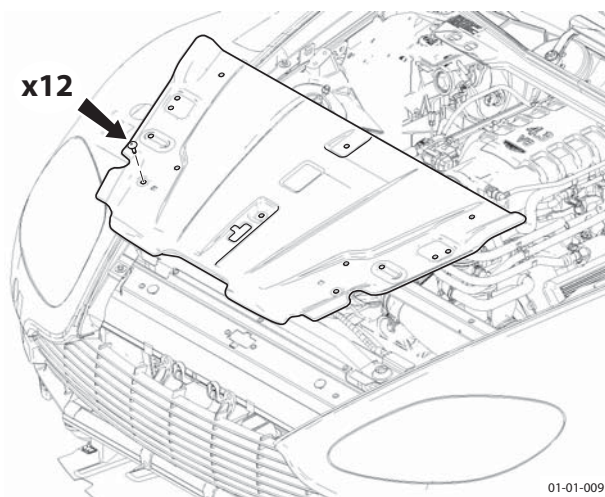

Figure 1
3. Remove slam panel (screws x12) (Figure 1).